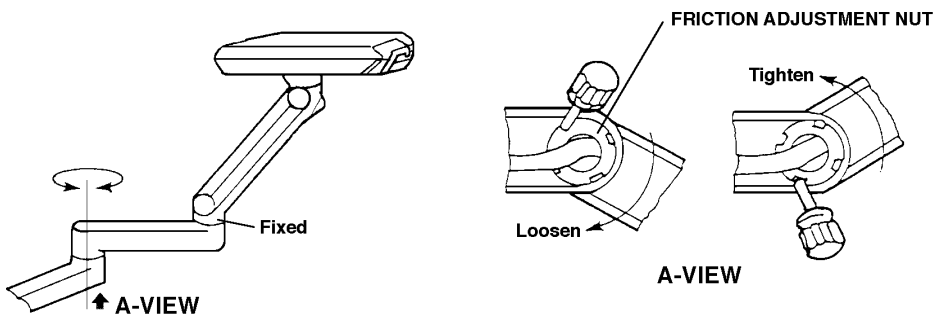

Fig.9-3 Adjustment of Doctor Table Horizontal Arm Friction
3. Adjustment of Doctor Table Horizontal Arm Friction (**Fig.9-3**)